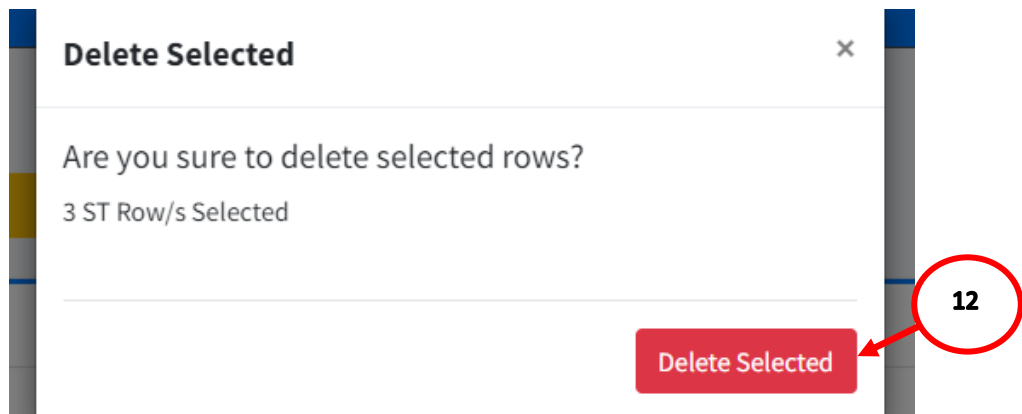

Figure 1.8
12. Click **Delete Selected** button to continue deletion of selected rows. (See Figure 1.8).